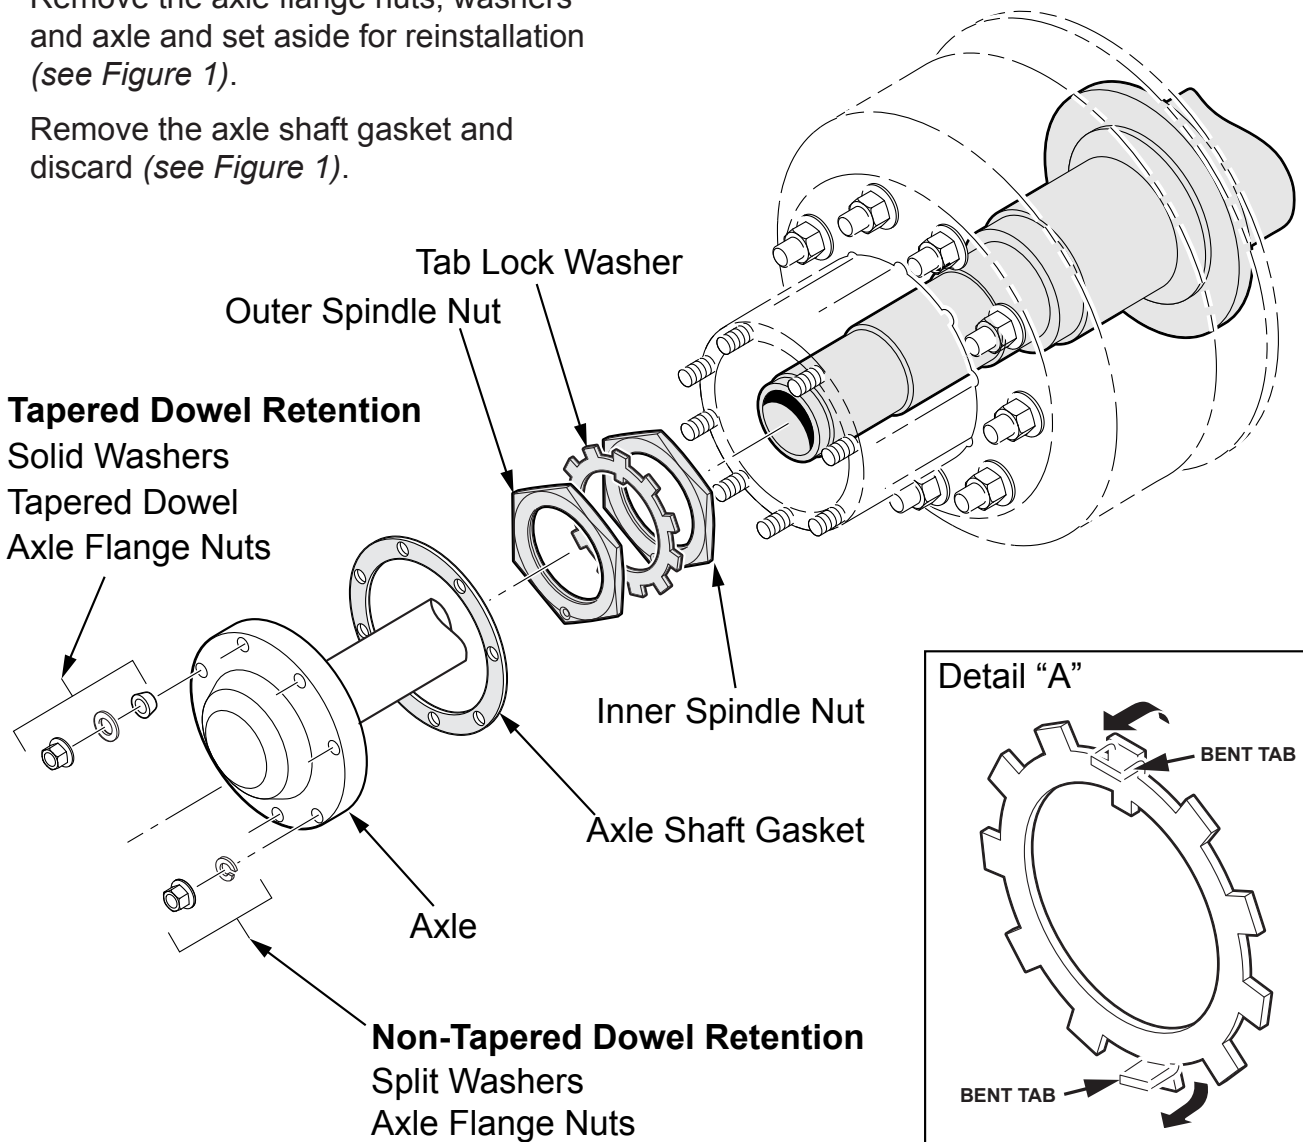

Figure 1
1. Remove the axle flange nuts, washers and axle and set aside for reinstallation (see Figure 1).
2. Remove the axle shaft gasket and discard (see Figure 1).
6. Remove the outer spindle nut and tab lock washer and set aside for reinstallation (see Figure 1).
7. Tighten the inner spindle nut to 200 ft-lb of torque (see Figure 1).
16. Install the new axle shaft gasket (3973009-006) (see Figure 1).
18. Tighten the axle flange nuts to 190 ft-lb of torque if equipped with non-tapered dowel retention or 85-115 ft-lb of torque if equipped with tapered dowel retention (see Figure 1).